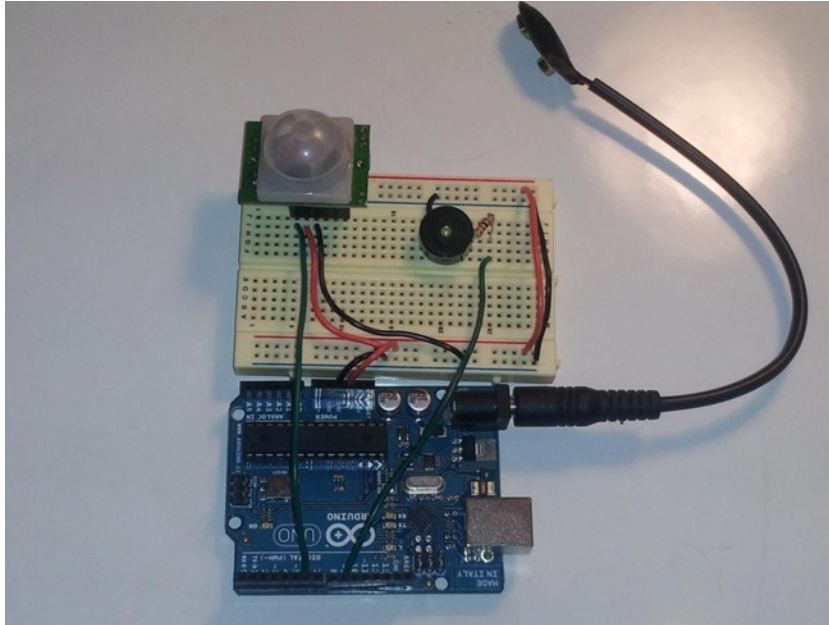

Figure 19-14. Connect the power cord to the Arduino
13. Finally, connect the 9V battery harness to the Arduino as shown in Figure 19-14.